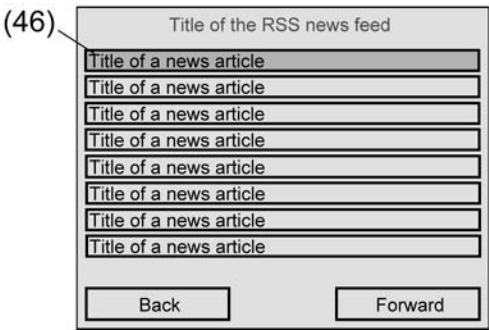

Figure 42: Display page of an RSS newsfeed
As soon as the operator taps an RSS button, the panel switches to the inbox display page of the appropriate RSS newsfeed (Figure 42).
- i The Read mode of a feed item can only be opened when the panel has fully loaded all the items of the appropriate RSS newsfeeds. If the loading operation has not be completed, then, when the "Read" button of an item is tapped, the panel will not react (Figure 42). In this case, it is advisable to wait until the loading operation, which always takes place in the background, has been completed.